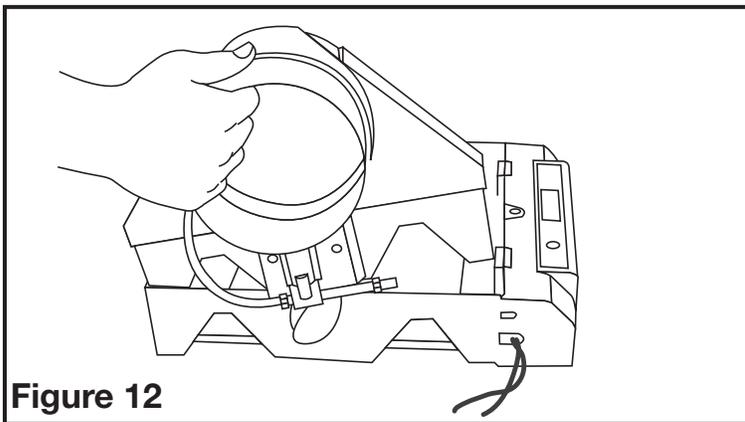

Figure 12
7. Lift the humidifier side out of the right hand position, turn the part and position it on the other side of the humidifier (**Figure 12**).